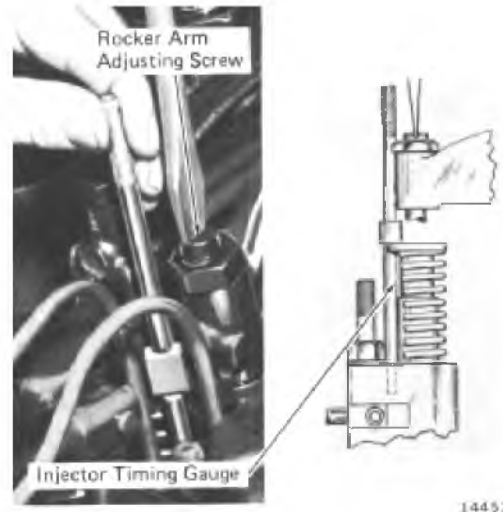

Fig. 5-38 - Timing Injector
2. Insert injector timing gauge into the hole provided for it in the injector body, Fig. 5-38.